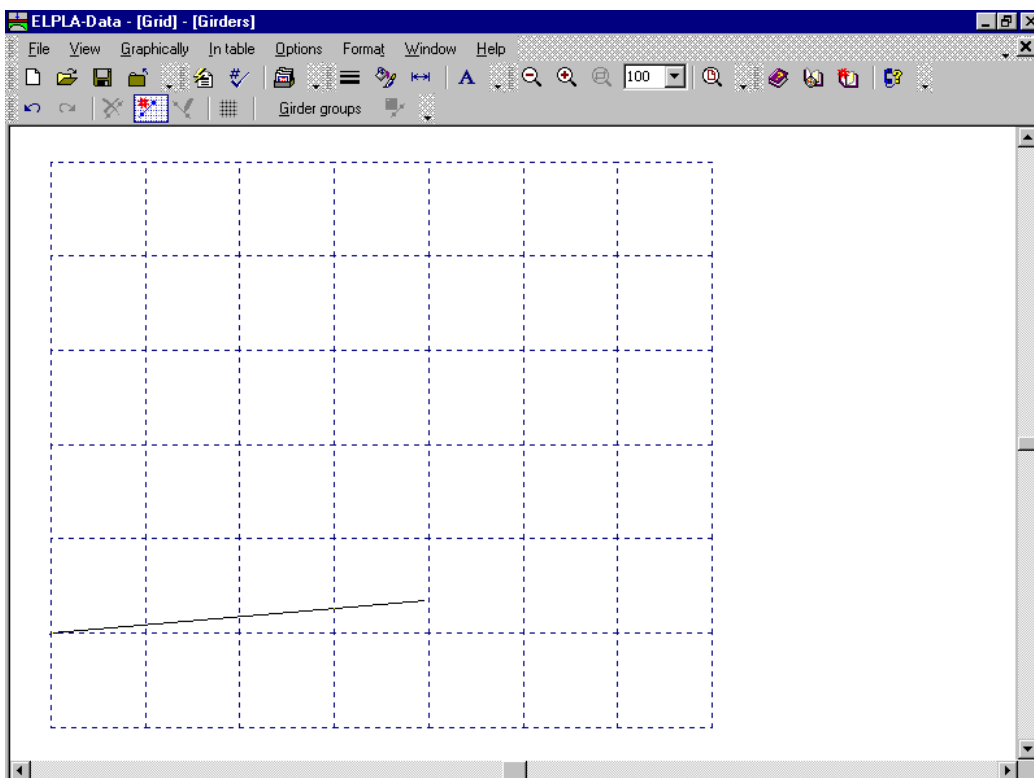
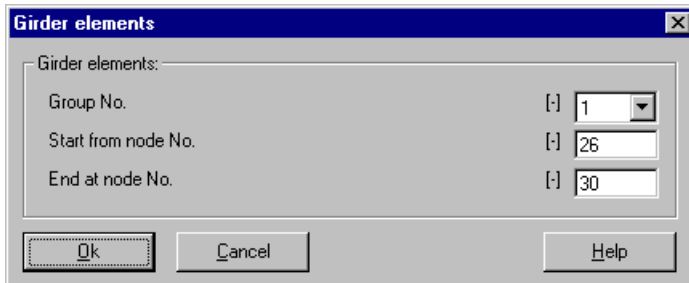

Figure 4-14 Add girder by mouse
Figure 4-15 "Girder elements" dialog box
- Click the left mouse button on the start node of the first girder and drag the mouse until the end node of that girder (Figure 4-14). Then click on the end node. The "Girder elements" dialog box in Figure 4-15 appears